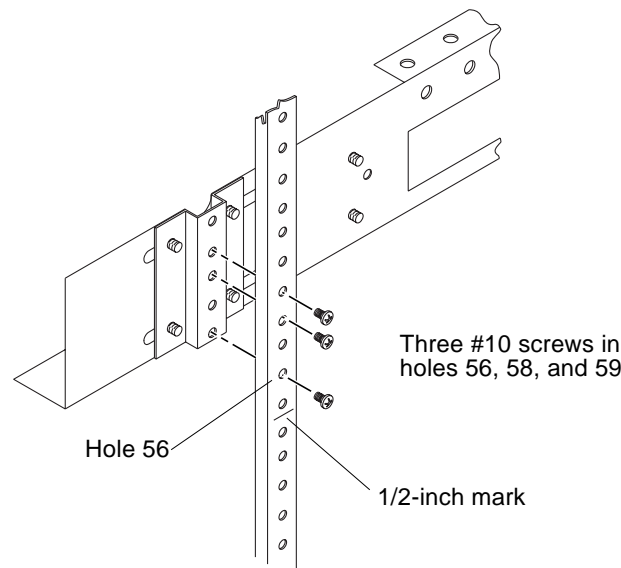

FIGURE 1-7 Attaching the Support Rails to the Back of the Cabinet
- a. Align the foot of the bracket (on the support rail) against the cabinet rail at the 1/2-inch mark near hole 55 (FIGURE 1-7).
- b. Insert three #10 screws through the cabinet rail (holes 56, 58, and 59) and into the support rail bracket (holes 2, 3, and 5, middle row) (FIGURE 1-7).